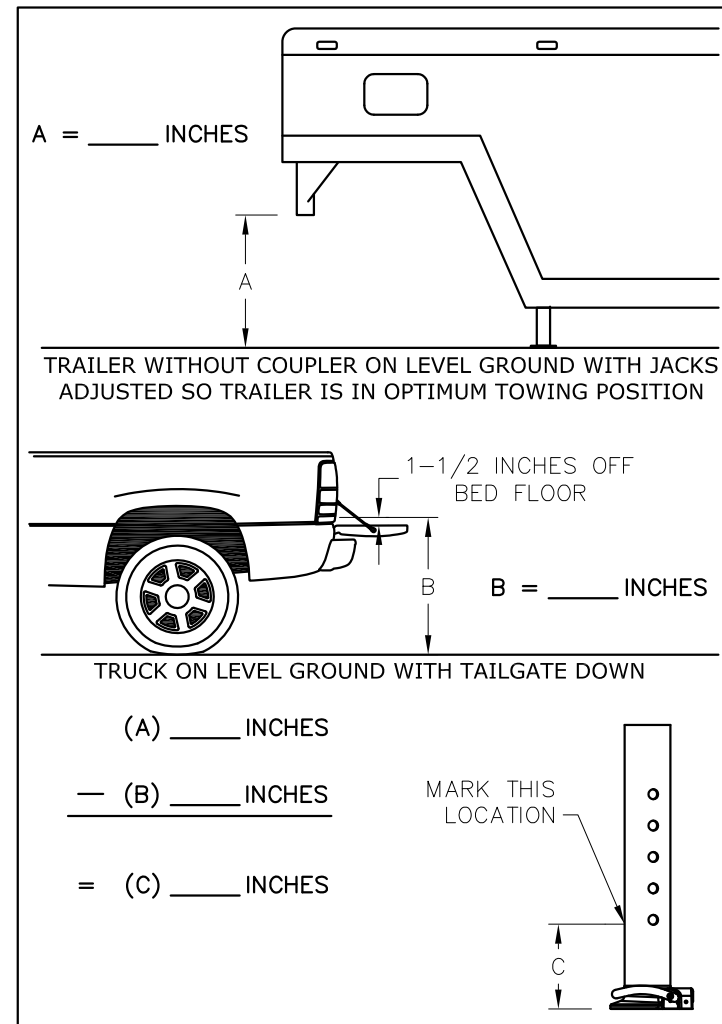

FIGURE B.2, COUPLER HEIGHT DETERMINATION
2. With the trailer jacks adjusted so the trailer is in its optimum towing position, determine the distance between the bottom of the trailer sleeve and where the bottom of the coupler will be when coupled to the ball. See figure B.2. Mark this position on the coupler.